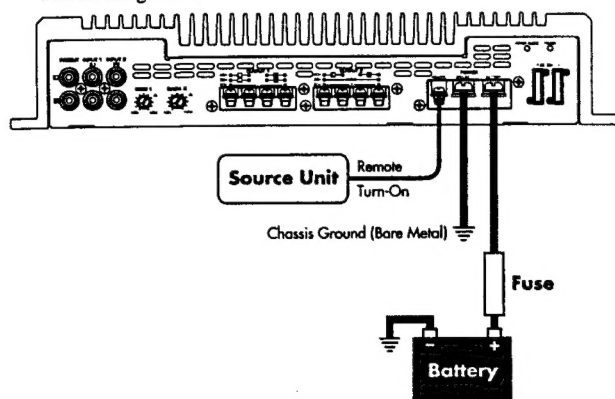

Figure 13. Electrical connections for an APA4400 or APA4200 amplifier.
- ◆ Refer to Figures 13 and 14 (on the next page) when making electrical connections. Connect the amplifier's positive (+) power lead via a fuse directly to the battery's positive (+) terminal. Do not connect this wire to the car's fuse panel. Use red-insulated 12 gauge (or larger) wire for the amplifier's positive (+) power lead and the same gauge black-insulated wire for the ground.